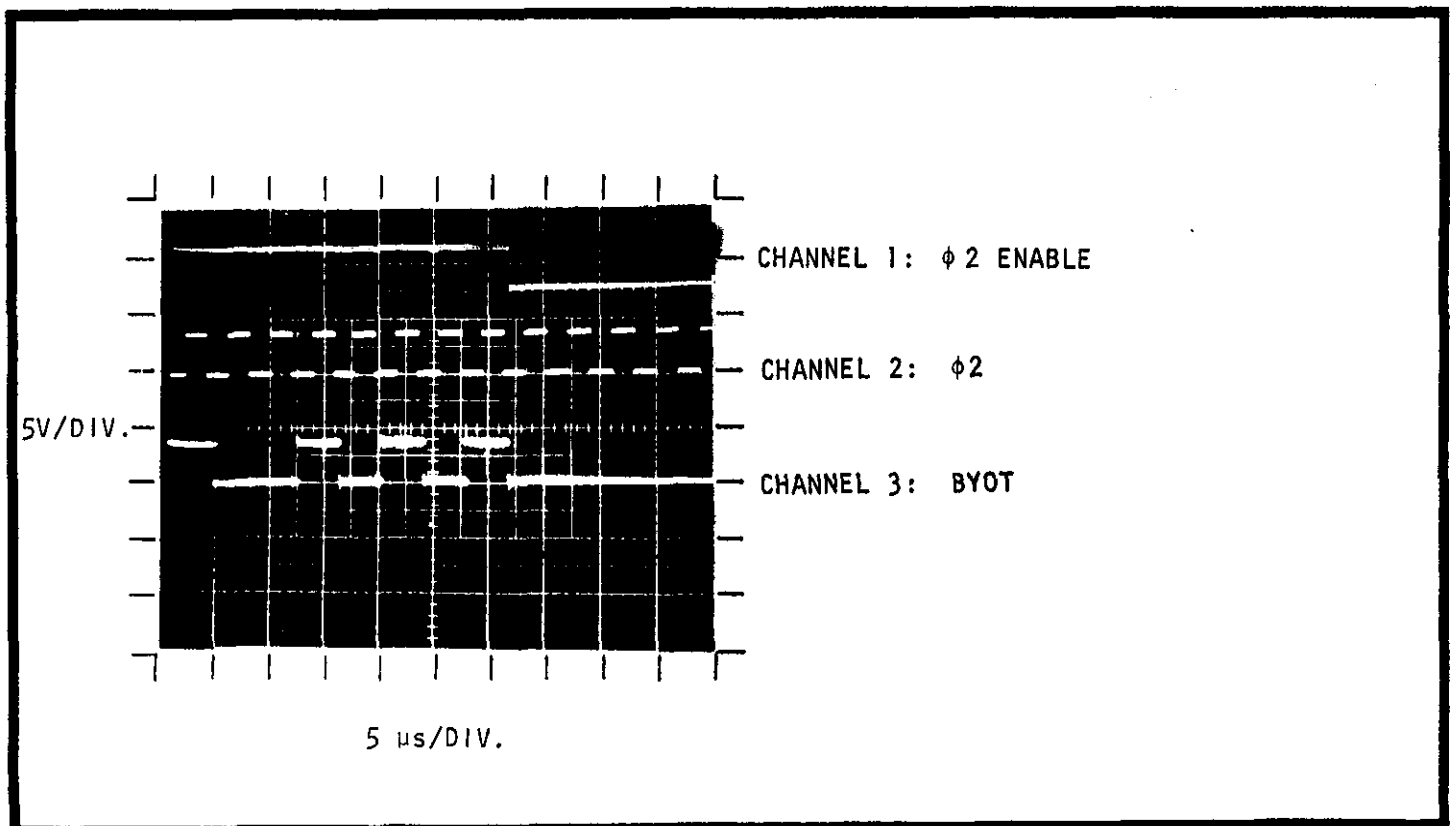

FIGURE 13. Trace for Test #5.
6. Verify the traces shown in Figure 13.